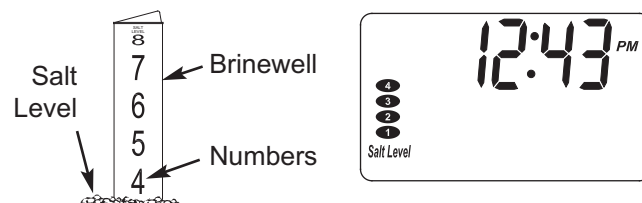

FIG. 22
3. Press the SET SALT LEVEL button until black ovals correspond to the salt level number (See Figure 22). At level 2 or below, the “Check Salt Level” LED indicator will flash.